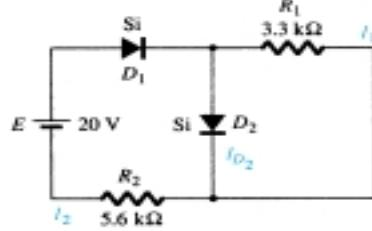

Fig. 9.
3. Determine the currents I_1 , I_2 , and I_{D2} for the network of Fig. 9.